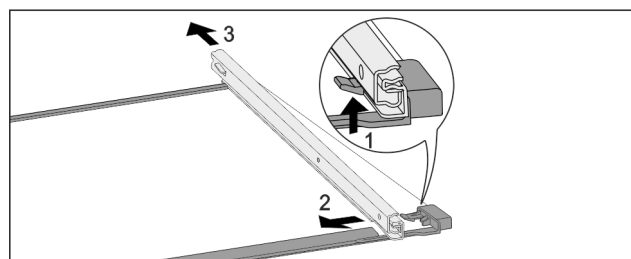

Fig. 164 Glass shelf with rails
- ▶ Push up front click-in hooks. Fig. 164 (1)
- ▶ Slide pull-out rails to the side Fig. 164 (2) and backwards Fig. 164 (3).